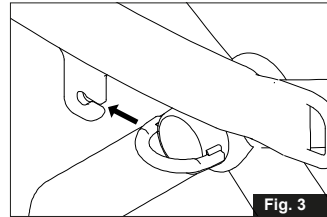

Fig. 3
2. Tilt GH3 Cross hanger to slide the round hoop in to the hook (*Fig. 3*)